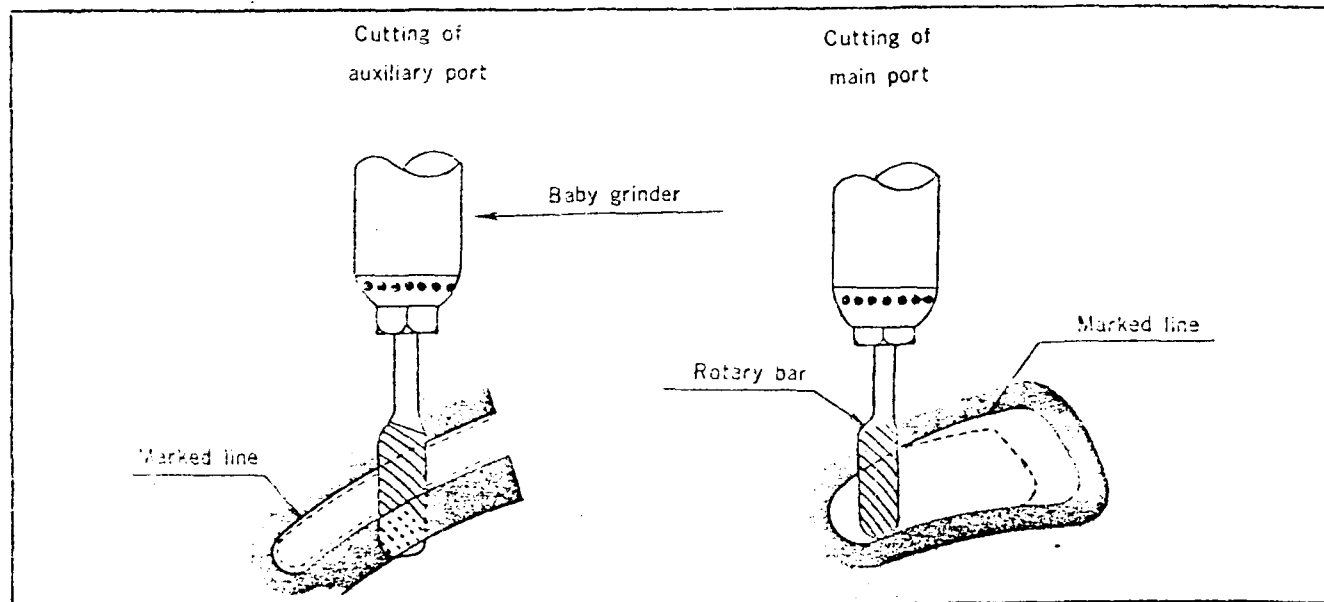

Fig. 2-12 Cutting of Port
4) As to the intermediate housing, see that holes No. 1 ~ 5 are drilled through, hole No. 6 is drilled to the depth of under 5 mm (0.20 in) and hole No. 7 to the depth of under 3 mm (0.12 in). (See Fig. 2-12)